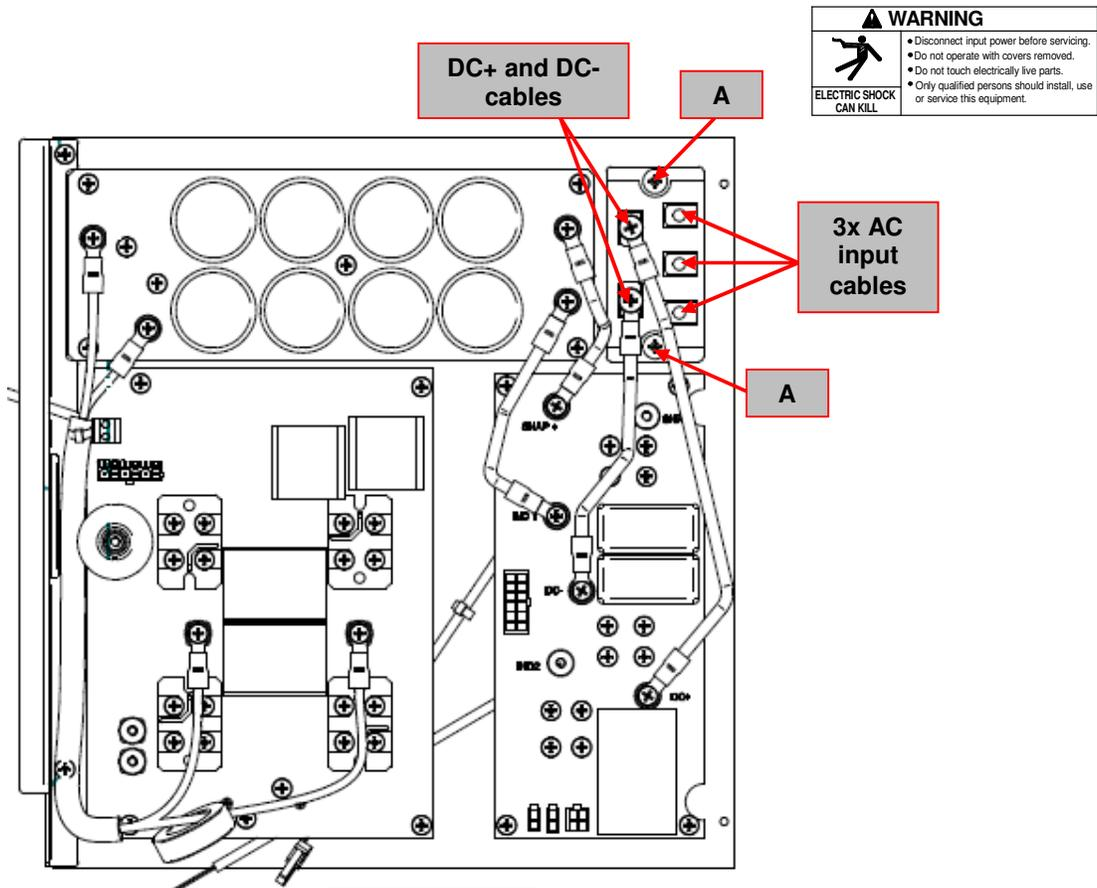

Figure 24
3. Locate the 3 phases input rectifier bridge W6814030 on the right side of the machine. See **Figure 24**
4. Using a Phillips screwdriver PH02 remove the 3 AC input cables and the 2 output DC+ and DC- cables from the 3 phases input rectifier bridge. See **Figure 24**
5. Using a Phillips screwdriver PH02 remove the 2 screws (**A**) that fix the 3 phases input rectifier bridge to the heat sink. See **Figure 24**